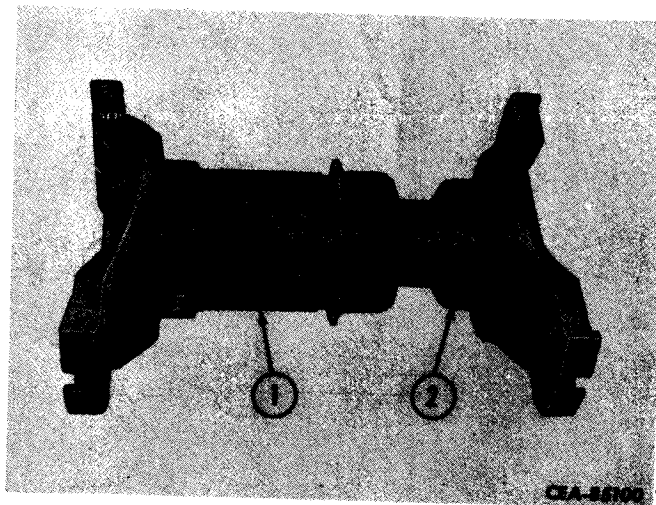

Figure 5-6
Punch mark slip yoke (1, Fig. 5-6) and splined shaft (2) so they will be reassembled in same alignment.